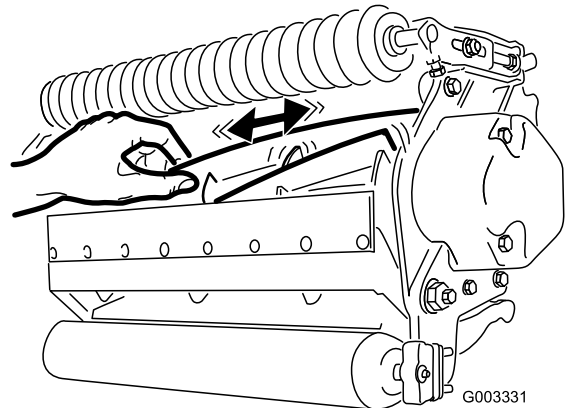

Figure 31
2. Using a rag or thickly padded glove, hold on to the reel blade and try to move the reel assembly side to side (Figure 31).